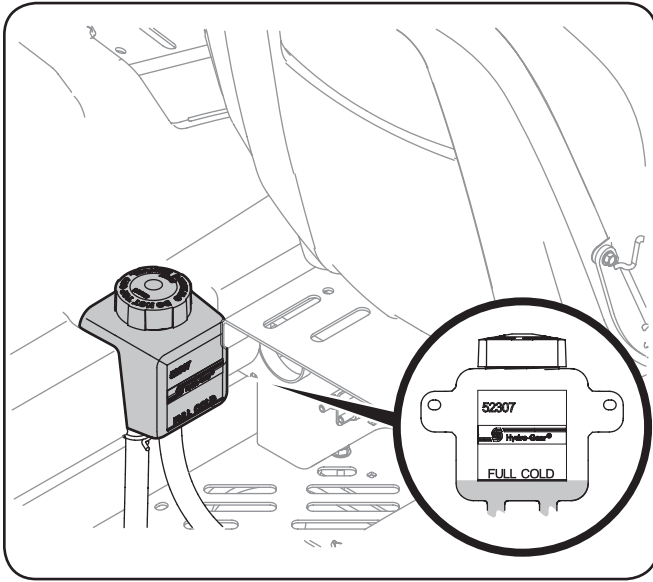

Figure 6-5
1. Pivot the operator's seat forward and clean the reservoir cap and the area around the cap to prevent debris from contaminating the transmission oil. See Figure 6-5.
2. Turn the reservoir cap counterclockwise to re-move, then check the oil level in the reservoir. Oil should be visible at the bottom of the cup, but the oil level must NOT be above the "FULL COLD" line. See Figure 6-5. DO NOT FILL THE RESERVOIR.